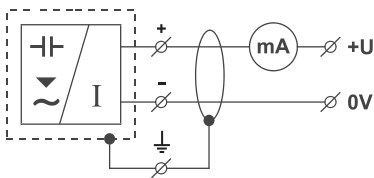

Fig. 11: Connection diagram of level meter with current output CLM-70\_--I
5. Connect the cable to threaded terminals, as shown in the diagram in Fig. 11. Tighten the terminals and cable gland firmly. For the tightening torque, see the Technical Specifications.